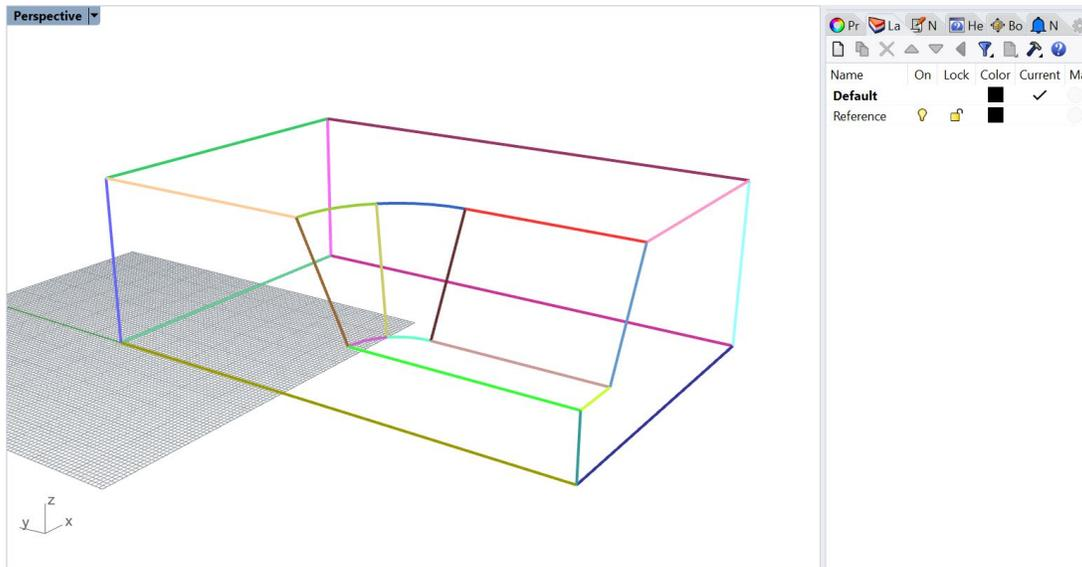
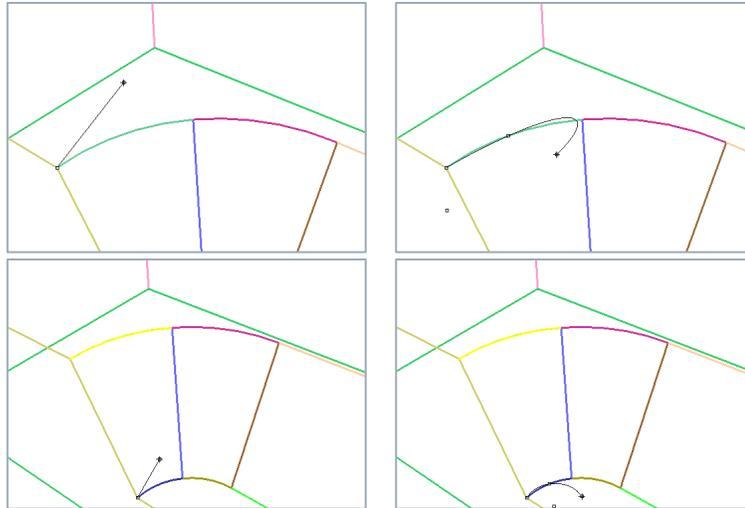
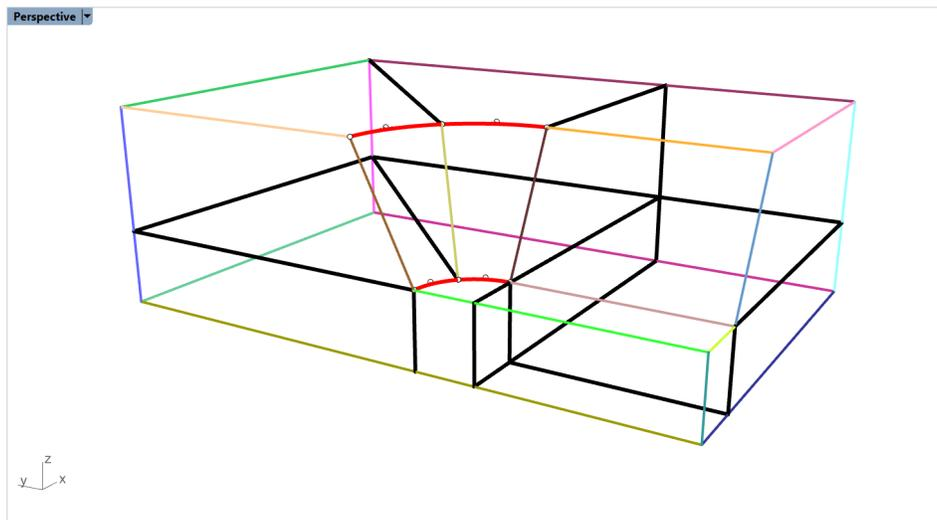

Figure 31: The reference model.
Figure 38: Building the upper (top) and lower (bottom) arcs.
Figure 39: Red arcs retrace the original polylines at the curved section of the model.
5. Navigate to the *Layers* pane as shown in Figure 31. If the pane is not visible, open it by going to **Edit** → **Layers** → **Edit Layers...** In the *Layers* pane, rename the automatically created layer “lines” to “Reference” and delete all layers except “Default” and “Reference”. Ensure that all objects are now in layer “Reference” by selecting all objects and navigating to the *Properties* pane (or press **F3**).
6. Select all objects and type the command `_Move`. For the *Point to move from*, select the bottom-left corner of the model and for the *Point to move to*, type 0. This will move all objects and align the bottom-left corner of the model with zero coordinates. Compare the results with Figure 31.
- Starting with the reference model presented in Figure 31, create new construction lines as shown in Figure 38. Use the **_Line** command and start by connecting nodes from the middle of the model (where the curved segments are) to the sides of the model. Pay attention to when the mouse tooltip shows “Perp” or “Perp, Int” (or other types of intersections), which means that the line under construction is perpendicular to (and intersects) another line.
The curves created in the previous step (Figure 31) are polylines, and some of them are composed of multiple linear segments that cannot be used directly to build surfaces. They must be retraced with arcs (**Curve** → **Arc**) or higher order curves (**Curve** → **Free-Form** → **Interpolate Points**) to create simpler two-noded curves.
- Zoom in around the curved segments in the model and select in the top menu **Curve** → **Arc** → **Start, Point, End**. Create separate arcs at each curved segment of the model as shown in Figure 38 and Figure 39. In total, four arcs should be created. Pay attention to when the mouse tooltip shows “End, Int, Knot” when connecting to the points in the middle of the curved segments. Such a tooltip means the mouse is at the end of a line, hit an intersection with another line, and is at a knot.